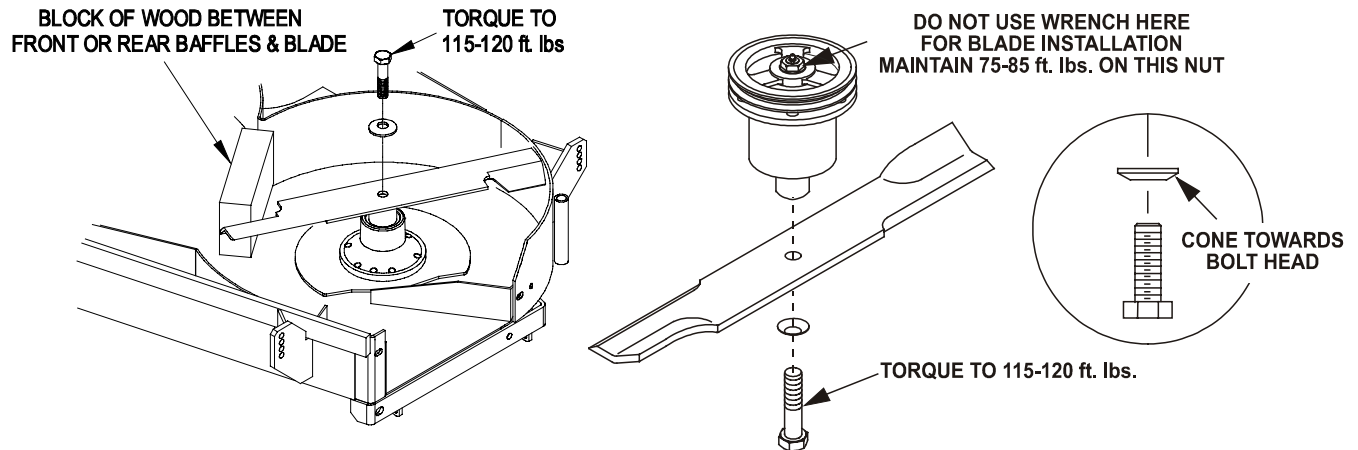

FIG. 5
- g) Re-install the blades (if they were removed) by placing a block of wood between the front or rear baffles and the blade then torquing the blade bolts to 115-120 ft. lbs. Be sure the spring disc washer cone is installed toward the bolt head (See Figure 5).